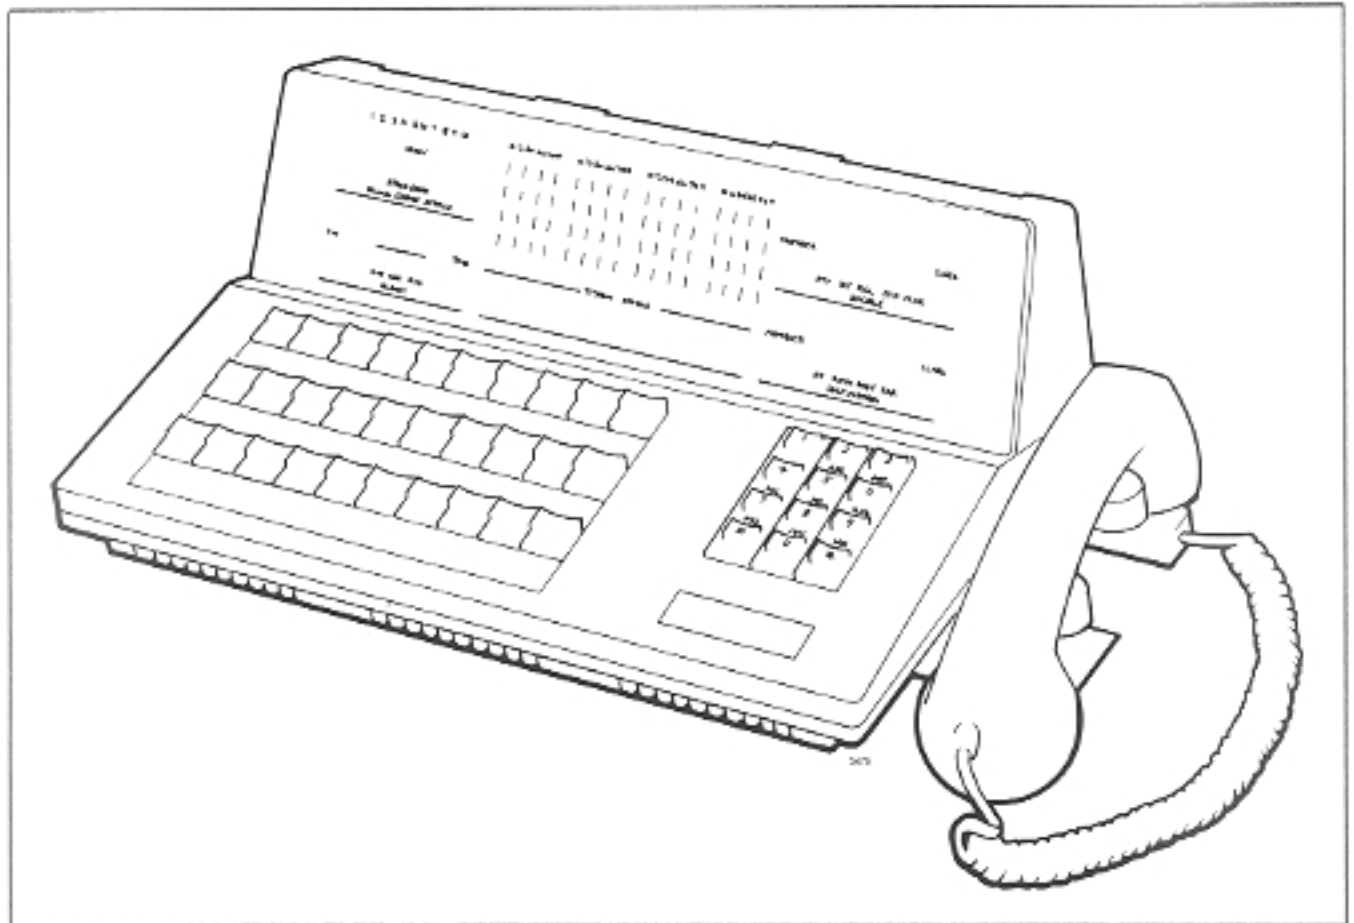

Fig. 2-6 Attendant Console
2.16 The SX-200 attendant console (Fig. 2-6) is enclosed in a housing with a smoked plastic faceplate. Located on either side of the console are a pair of headset/handset jacks allowing simultaneous operation and supervision. The console keyboard holds three rows of ten nonlocking keys for the selection of features and completion of calls. On the right of the keyboard is a 12-key pushbutton dial pad. The console display, mounted above the keyboard, displays the active states of calls in progress. In addition to the call status display is a busy lamp field, a